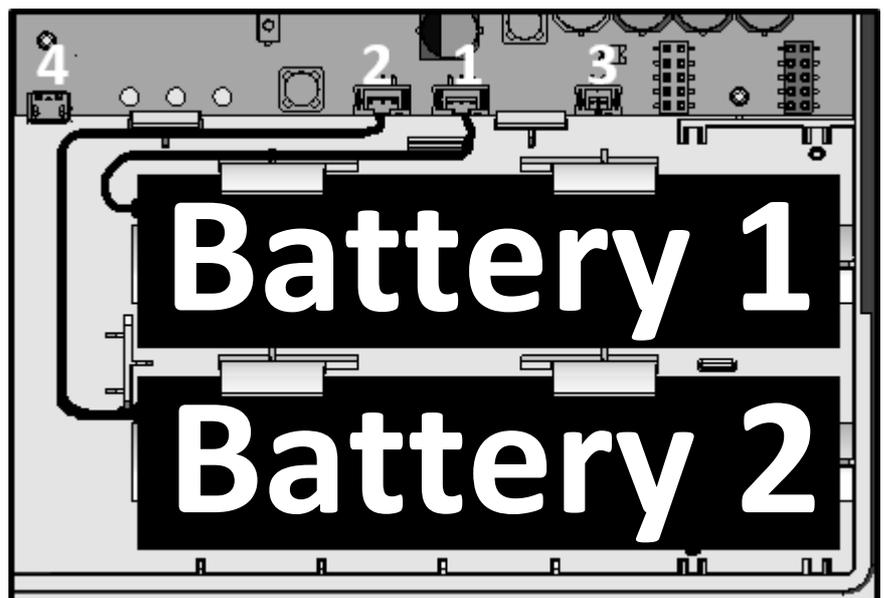

Fig.1 Gateway inside bottom right view
- Plug the batteries plug into the corresponding connectors (see Fig.1).